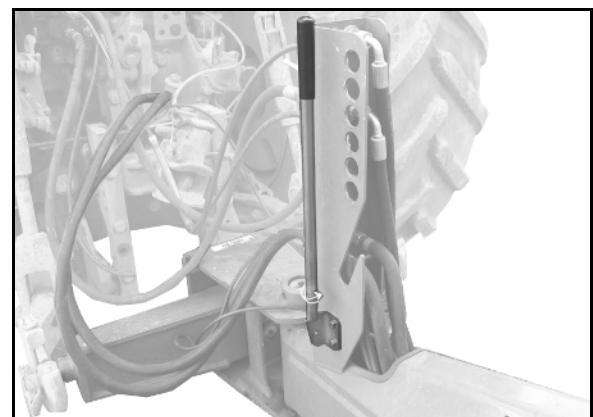

Fig. 45
1. Move the hand lever from parking position (Fig. 45).